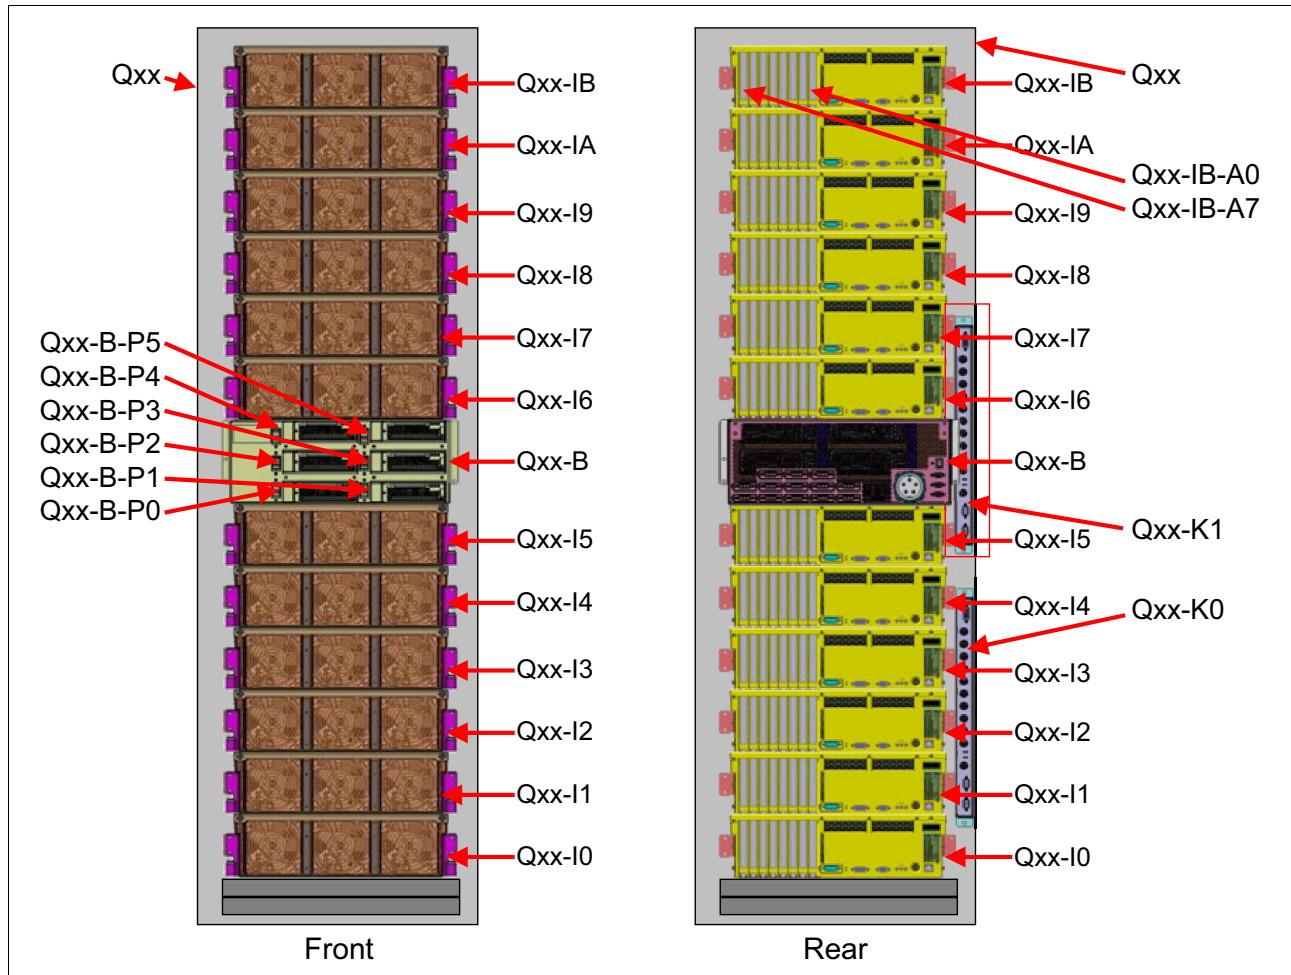

Figure 3-7 I/O rack naming convention
4. Install the rest of the cables according to the cabling plan. See Figure 3-7 for the I/O rack locations.
Figure 3-7 shows the naming convention for an I/O rack.